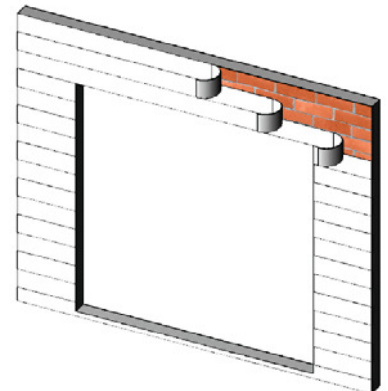

Figure 15:
4. Weather resistant building paper should be applied in a weatherboard fashion to complete the installation (Figure 15).